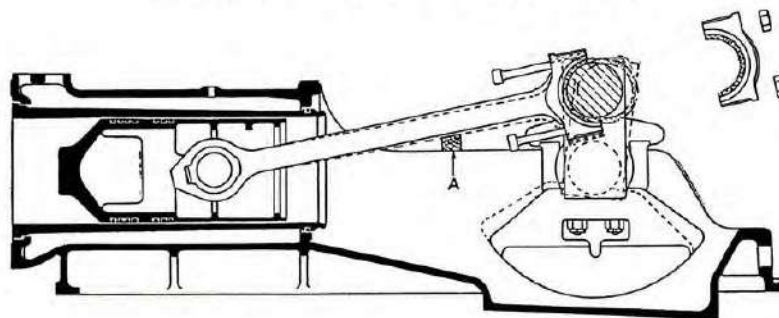

Fig. 48.
- (1) Place the crank in the vertical position with the balance weights underneath as shewn in Fig. 48.
- (2) Place a piece of timber **A** across the top of the bedframe underneath the connecting rod in such a position that the balance weights will swing clear. This packing timber must be about $\frac{3}{8}$ in. to $\frac{1}{2}$ in. clear of the rod.
- (3) Remove the connecting rod cap and front half of the bearing, and tap the bolts back clear of the rod, as shewn, to avoid injury of the crank pin by the bolts.
- (4) Move the crank forward a little, and twist the back half bearing round the journal until it can be withdrawn.
- (5) Move the crank further forwards until the large end is quite free and the rod rests on the piece of timber **A**.